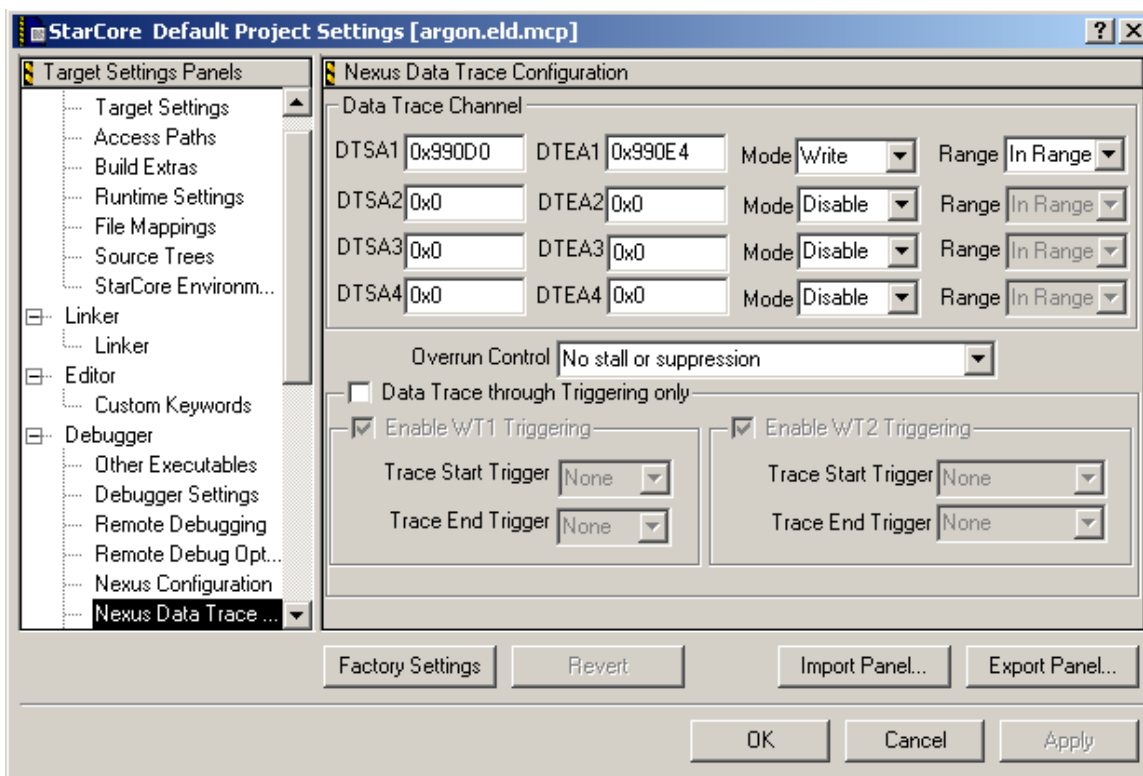

Figure 19: Data Trace configuration
- b. Nexus Data Trace Configuration is setup to trace a single data channel. It is configured to trace any read or write which occurs within a data buffer. The start and end addresses were found using the debugger in this example, but the map file also provides this information. Figure 19: Data Trace configuration shows the configuration for the data tracing.